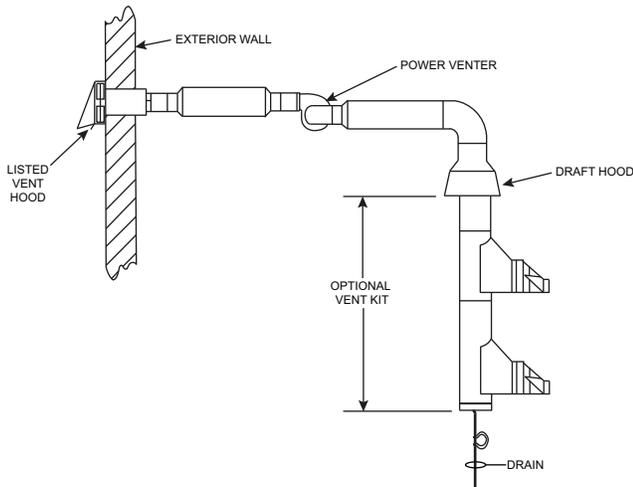

Fig. 165 — Indoor Horizontal Vent System Energy Recovery Ventilation (ERV) Sections
- See Fig. 165 for indoor horizontal (powered) vent system.